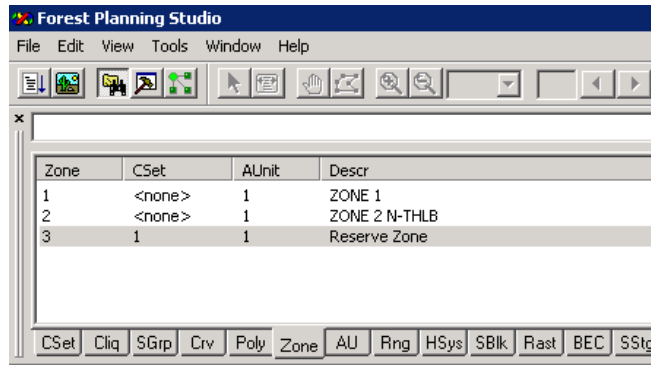

Figure 29: Confirming that the constraints are applied to the correct zone.
- 3.3.10 Select the *Zone* tab in the *Browser* window. The *Reserve Zone* should be visible and should have *Cset 1 (No Harvest)* applied (figure 29).